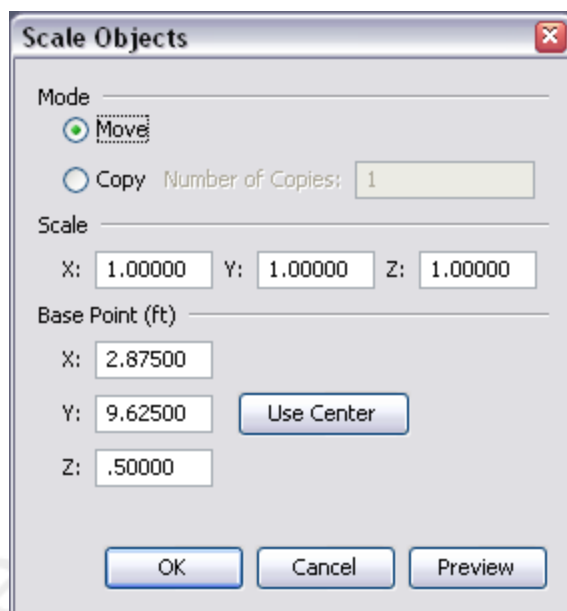

Figure 116. The scale dialog being used to scale an object
3. This will show the Scale dialog as in Figure 116.